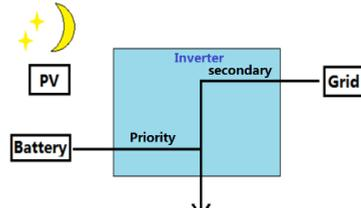

Figure 1-6
2. When PV is insufficient, batteries and grid supply power to the load together. (Figure 1-6)